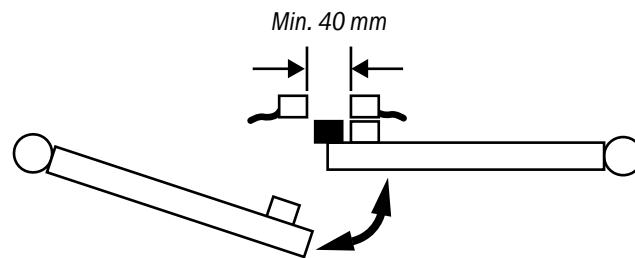

Figure 6: Mounting example on swiveling doors
- ▶ Minimum distance between two adjacent magnetic safety switches: 40 mm. On swiveling doors the actuator is to be fitted to the closing edge (figure 6).